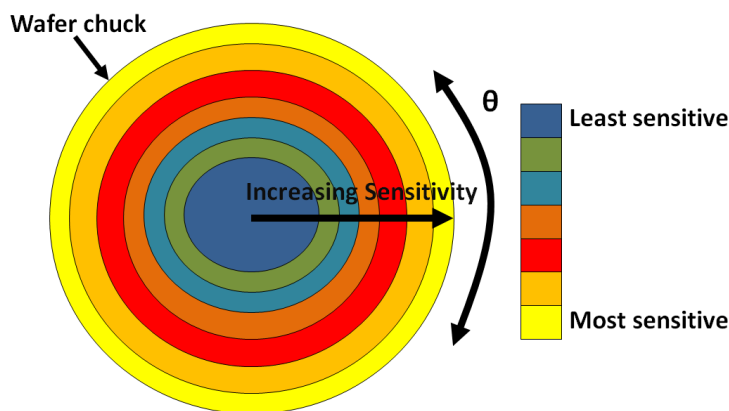

Figure 11 Impact of θ micrometer on the positioning of the wafer chuck.
- ii) The θ micrometer has a range of sensitivity (**Figure 11**). If we were to observe the center of the wafer chuck while turning the θ micrometer, we would observe little movement of the chuck.